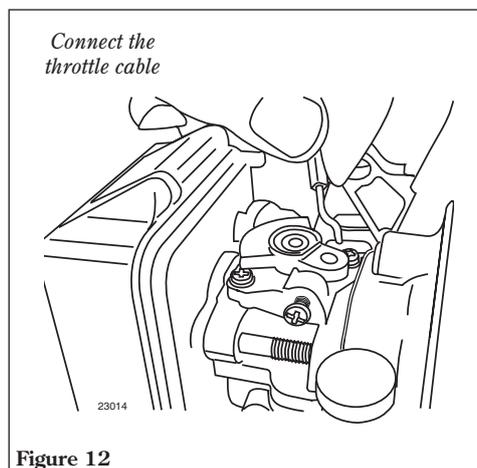

Figure 12
3. Connect the S-shaped end of the throttle cable to the throttle lever on top of the carburetor. See Figure 12.